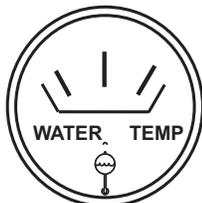

Figure 57. Coolant Temperature Gauge
14. The coolant temperature gauge (Figure 57) will indicate the coolant temperature. Under normal operating conditions the coolant temperature is between 165 and 215 degrees Fahrenheit.